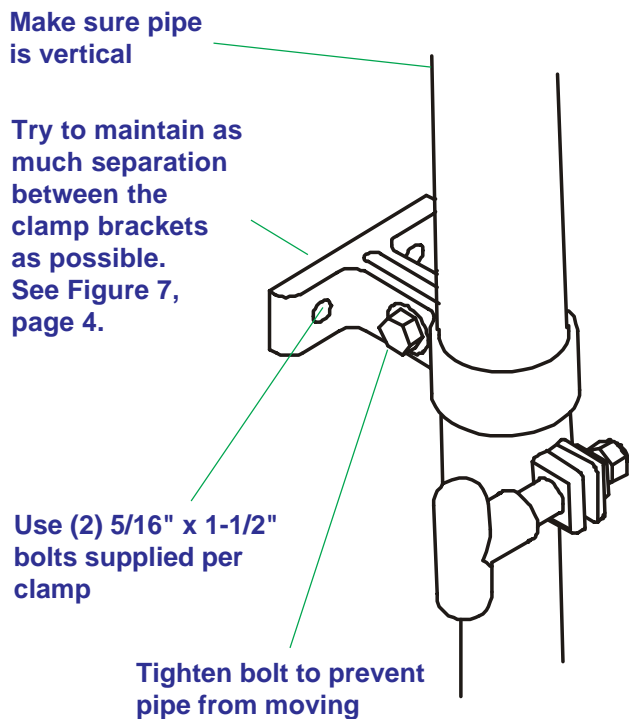
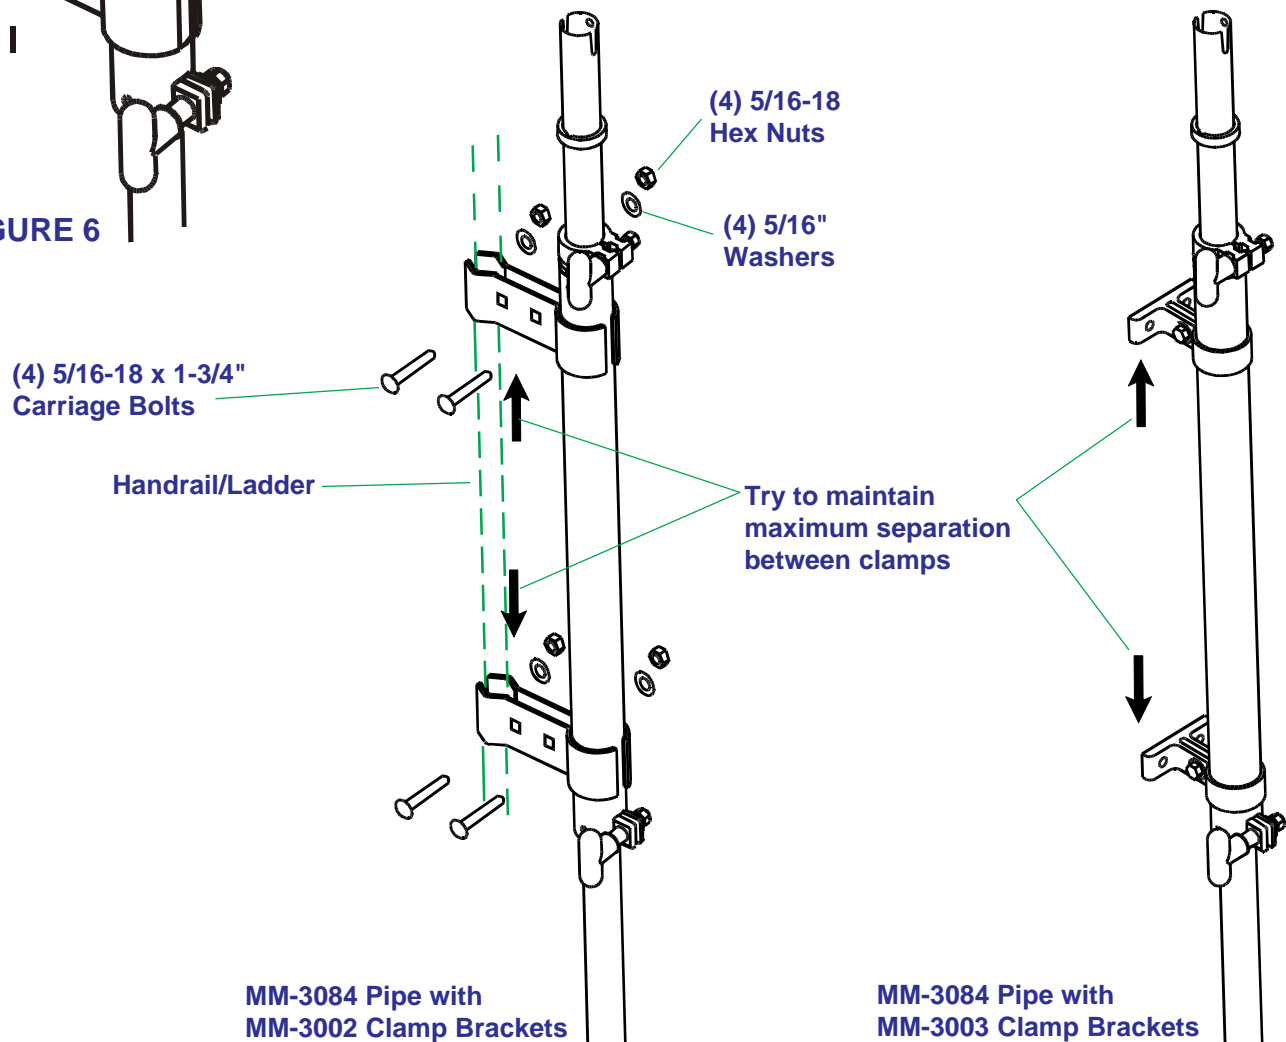

FIGURE 5
FIGURE 7
STEP 7. Use (4) 5/16" x 1-1/2" bolts supplied to secure pipe clamp brackets to side of truck/RV. See Figure 5. **Try to maintain as much separation between the clamp brackets as possible.** See Figure 7. It is recommended that you attach the top clamp with one bolt, then check vertical alignment before attaching bottom clamp and finishing top.
STEP 8. Tighten clamp bracket bolts to prevent pipe from moving, See Figure 5. You are now ready to aim the antenna; proceed to Operation, page 5.
STEP 10. Attach clamp brackets to pipe and handrail/ladder using carriage bolts, nuts and washers supplied with MM-3002. Do not crush handrail/ladder. Try to maintain as much separation between the clamp brackets as possible. See Figure 7. Make sure pipe is vertical (straight up and down). You are now ready to aim the antenna; proceed to Operation, page 5.